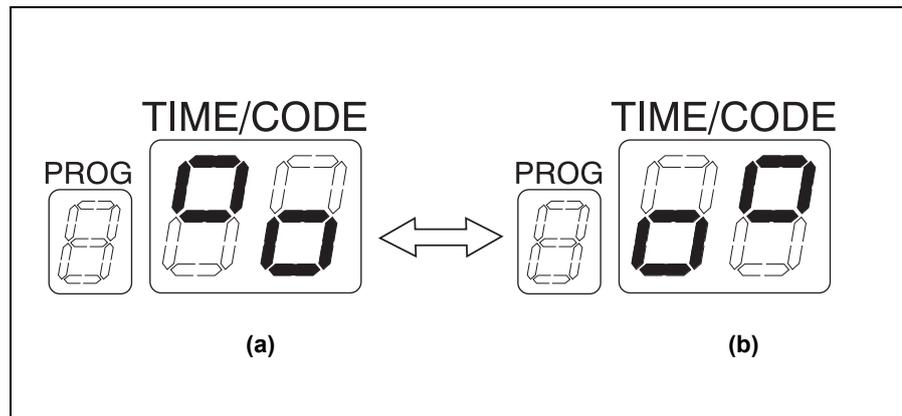

Figure 7.80
5. As multiple beeps sound, the time display on the main panel alternates between Figure 7.80 (a) and (b) indicating that it is ready to add the disinfectant solution.